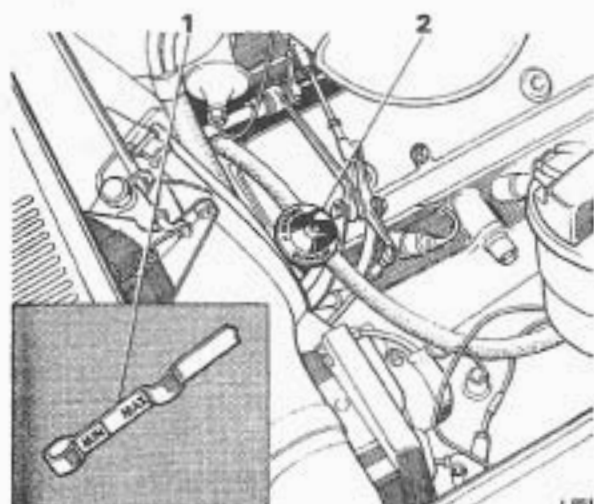

FIG. T131 CHECKING THE OIL LEVEL
The transmission dipstick and filler tube are situated on the right-hand side of the engine and are easily accessible when the bonnet is raised (see Fig. T131).
The level of the transmission fluid should be checked at every engine oil change. The full 'MAX' and low 'MIN' marks on the dipstick are approximately  $\frac{1}{2}$  pint (Imp.), 1 pint (U.S.), 0.45 litre apart and should be used to determine the correct fluid level at the normal operating temperature of 76-77°C., (170°F.). Careful attention to transmission fluid temperature is necessary because the correct fluid level at low operating temperatures will be below the 'MIN' mark on the dipstick (see Fig. T131), and the correct fluid level at higher operating temperatures will rise above the 'MAX' mark. Fluid level must always be checked when the car is on an even, level surface and with the engine running to ensure that the converter is full. To determine the correct fluid level proceed as follows.
4. With the engine running, add fluid as required to bring it to the correct level (see Fig. T131).
The transmission sump should be drained every 12 000 miles (20 000 km.) or 12 months, whichever occurs first. Fresh fluid should be added to maintain the correct level on the dipstick (see *Fig. T131*).